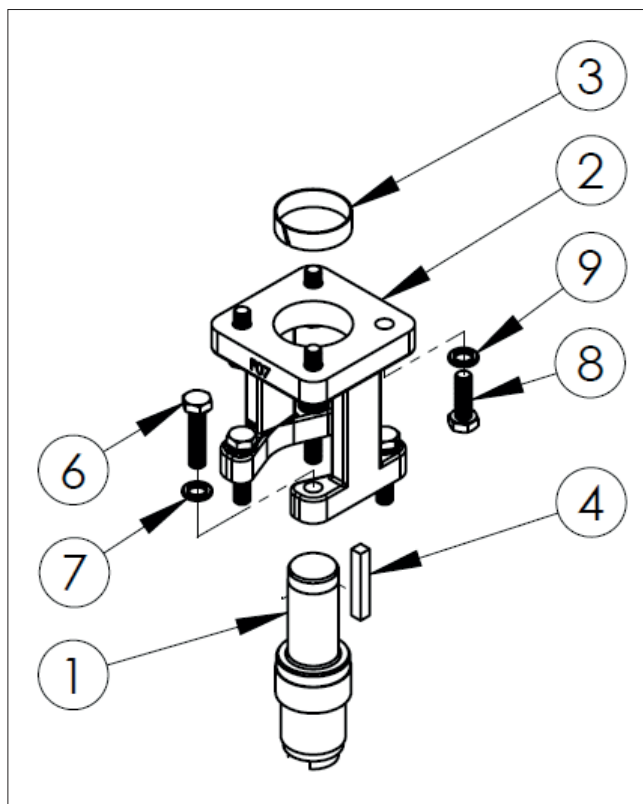

Figure 15. Linkage Assembly – Key Drive
## 7.3 BRACKET PREPARATION – (SEE FIGURE 15)
**Key Drive Actuators (Figure 15):** Install the key (4) into the key slot of the coupling (1). The key should be filed to closely fit into coupling and actuator keyway. If the fit is loose, apply Loctite® Keyfit or equivalent.